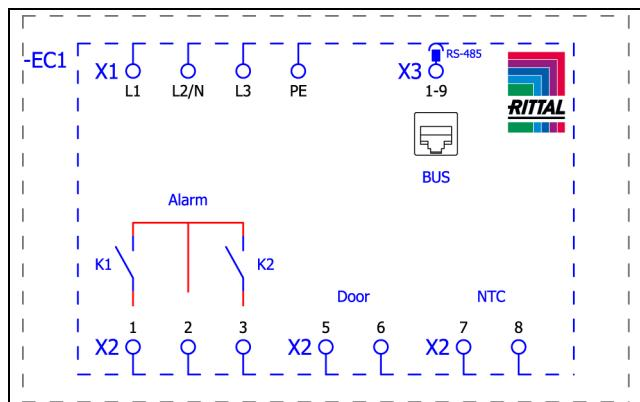
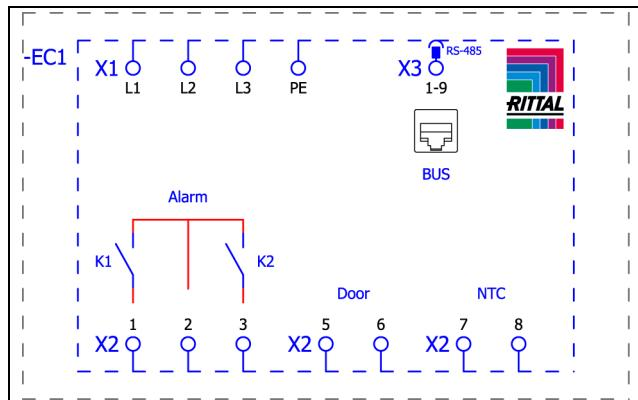

Fig. 17: Circuit diagram SK 3184837, SK 3185x3x, SK 3186x3x and SK 3187x3x
Fig. 18: Circuit diagram SK 3188x4x and SK 3189x4x
- Remove the mains connector from the dispatch bag and connect to the mains as shown on the connection diagram (fig. 17 or fig. 18).